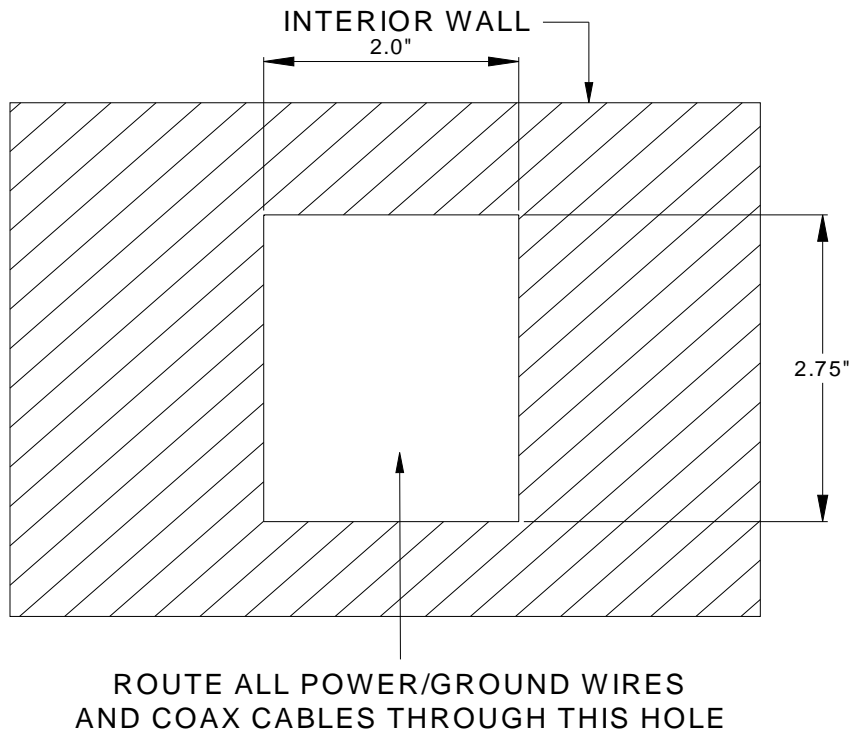

FIGURE 5
1. The wall plate/power supply assembly may be mounted in most electrical outlet/switch boxes. The plate can also be mounted without an electrical box. This mounting method requires a hole 2.75" x 2.0". Route 2 16AWG wires to this hole from the 12VDC source. Also route all coax cables to this hole. See Figure 5.